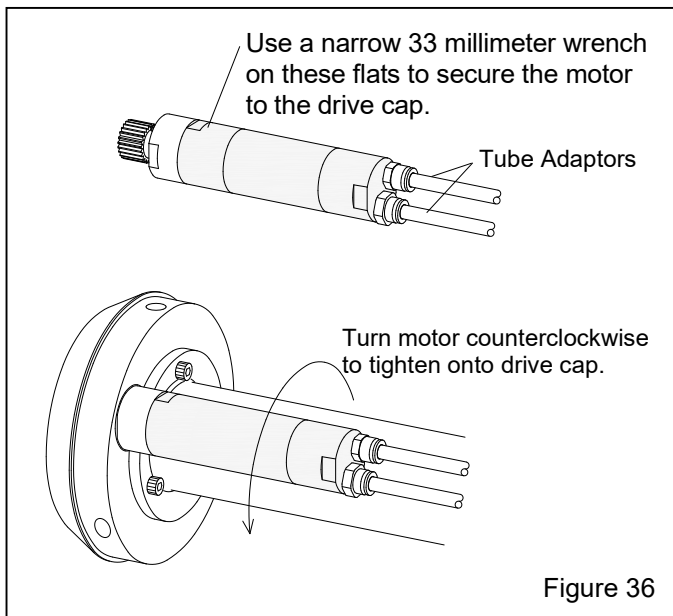

Figure 36
**9.6.3** If the tube adaptors were removed from the air motor, make sure they are clean and that the O-rings are on both adaptors before reinstalling them. Refer to Figure 36.
**9.6.5** The air motor has left-handed (reverse) threads; to install the motor, turn it counterclockwise, as shown in Figure 36. Use a narrow 33-millimeter wrench to tighten the motor.